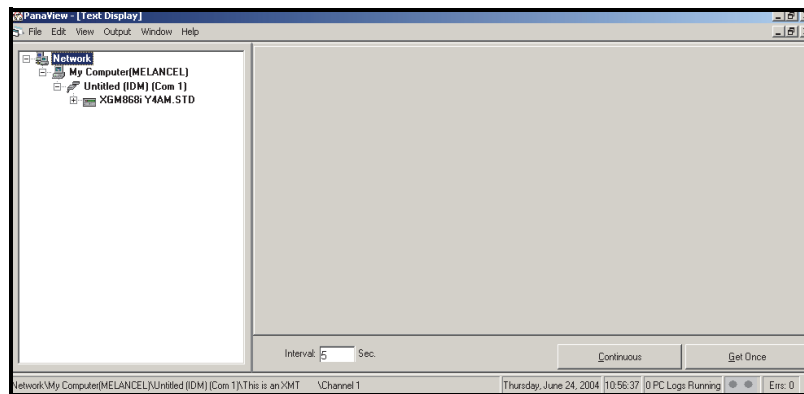

Figure 16 The Text Display Window
2. Using the *Window* menu, as described in the *PanaView User's Manual*, arrange the open windows in the desired format. For this discussion, Figure 16 shows the *Text Display* window in its maximized (full-screen) size.
5. Before actual data values can be displayed in the text pane, activate one of the following data collection modes (see Figure 16 on page 44):